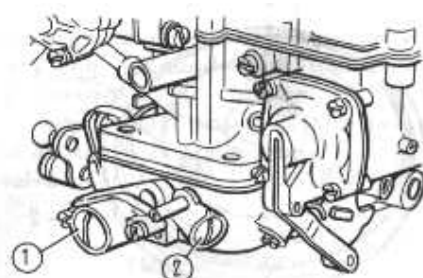

Fig 37. Idling system adjustment screws: 1- Idle speed screw limiting bushing, 2- idle mixture screw limiting bushing.
Every 10,000 Km (and also after the first 2,000-3,000 Km if the car is new), adjust the minimum idling speed of the engine. Have this adjustment done at a service station. The Owner is allowed only to carry out fine adjustment of the engine idling speed within the range permitted by idle speed screw limiting bushing 1 (Fig. 37) and by idle mixture screw limiting bushing 2. Attempts to turn the bushings through a larger angle will destroy them. In this case the Manufacturer bears no responsibility for excessive content of carbon monoxide (CO) in the exhaust gases and for excessive fuel consumption.